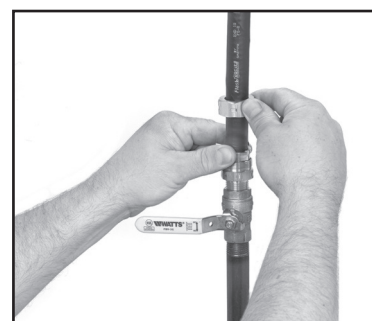

FIG. 6
STEP 4 POSITION BUSHINGS (FIG. 6)